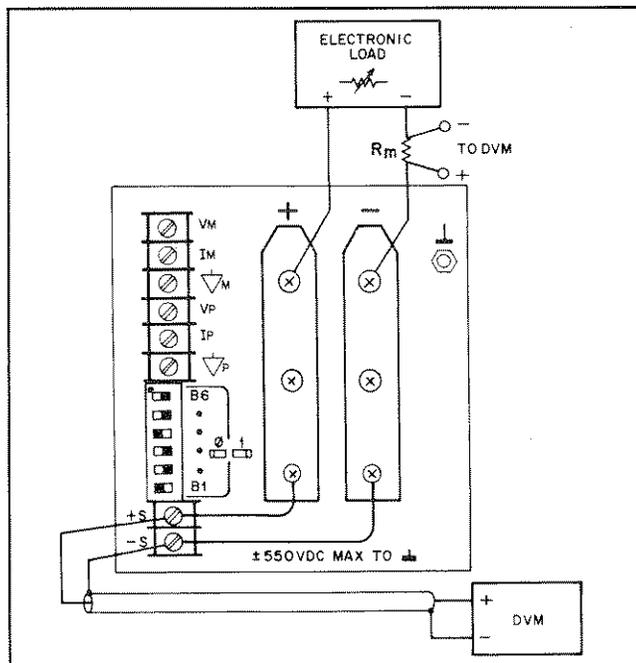

Figure 5-2. Basic Test Setup
Test Points: See Figure 5-2
- Connect the test equipment as shown in Figure 5-2. Operate the electronic load in constant resistance mode (Amps/Volt) and set resistance to maximum.
Test Set-up: See Figure 5-2
- a. Connect the test equipment as shown in Figure 5-2. Operate the electronic load in constant-current mode and set for minimum current.